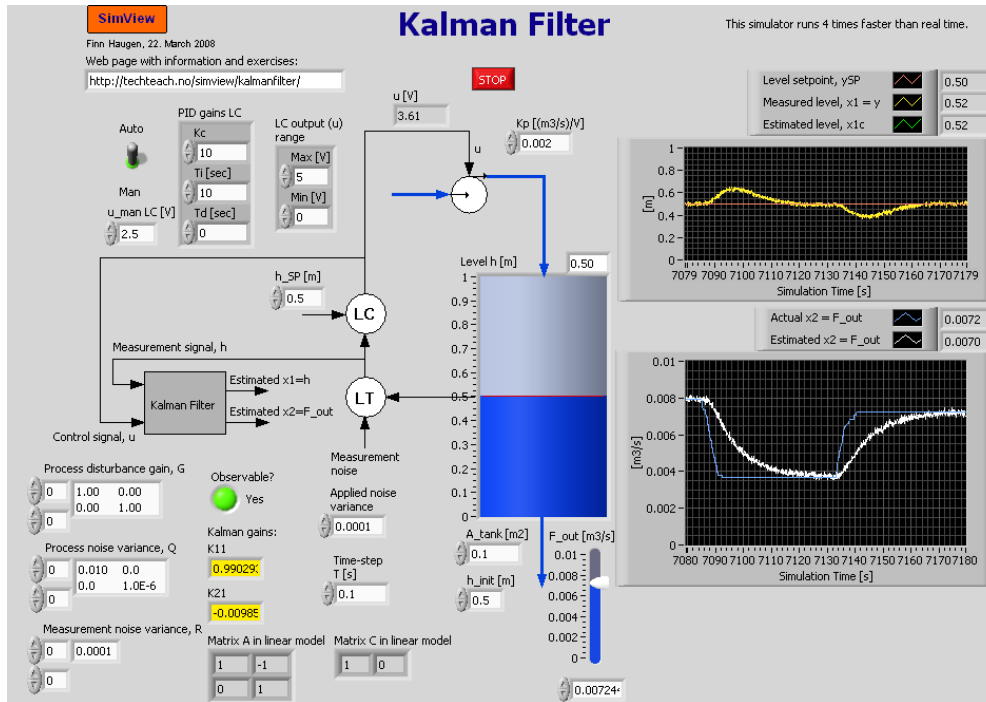

Figure 2: Liquid tank with Kalman Filter (and with level control system)
Figure 2 shows a liquid tank.
Figure 2 shows the front panel of a LabVIEW simulator of this example. The outflow  $F_{out} = x_2$  was changed during the simulation, and the Kalman Filter estimates the correct steady state value (the estimate is however noisy). During the simulations, I found that (40) gave too noise estimate of  $x_2 = F_{out}$ . I ended up with